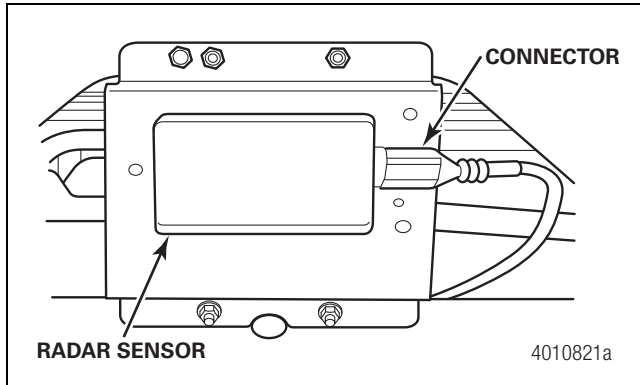

Figure 6
4. Reconnect the other end of the radar adapter harness to the new radar unit by pushing on the adapter connector until it snaps into the radar sensor. Slide the rubber boot over the connector until the connector is completely covered by the boot. If required, secure the harness using a snap clip or tie strap in the hole on the bracket. Make sure the harness is equipped with a drip loop and does not rub against any sharp edges. Figure 6.